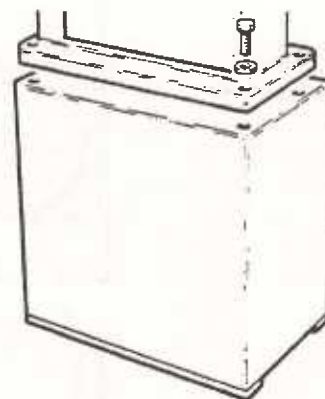

Fig.3.
3. Place bandsaw machine onto cabinet base with front of machine facing plain side of cabinet base as shown in Fig.3. Align holes in cabinet base with holes in bandsaw base and secure using 4 Hex. Hd. Screws, 4 Hex. Nuts and 8 Std. Washers supplied.